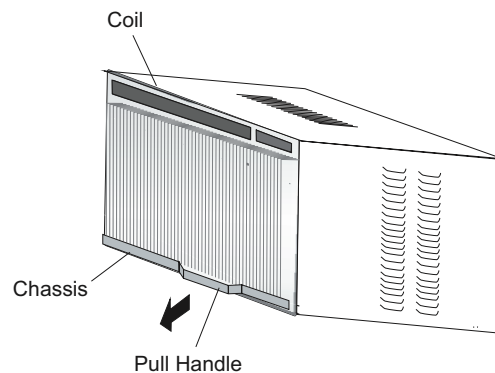

Fig. 7 – Air Conditioner Removal
- Grasp the pull handle at the front of the slide-out chassis and carefully slide the air conditioner out of the cabinet (see Fig. 7). NOTE: Screws must be reinstalled upon completion of the window installation to secure slide-out chassis.